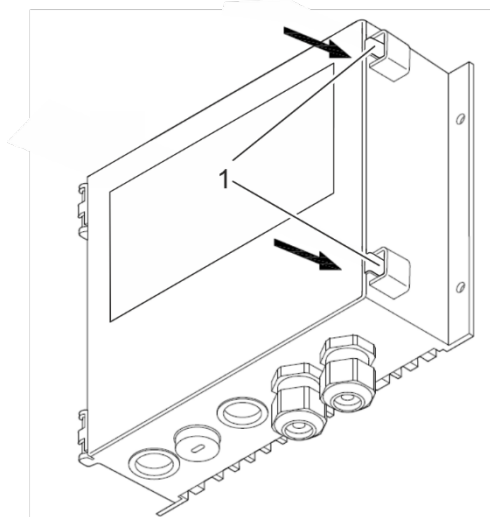

Fig. 106: Close front cover
26. Close the front cover of the rotor cleaner drive. Make sure that the locking clips (Fig. 106/1) engage audibly.